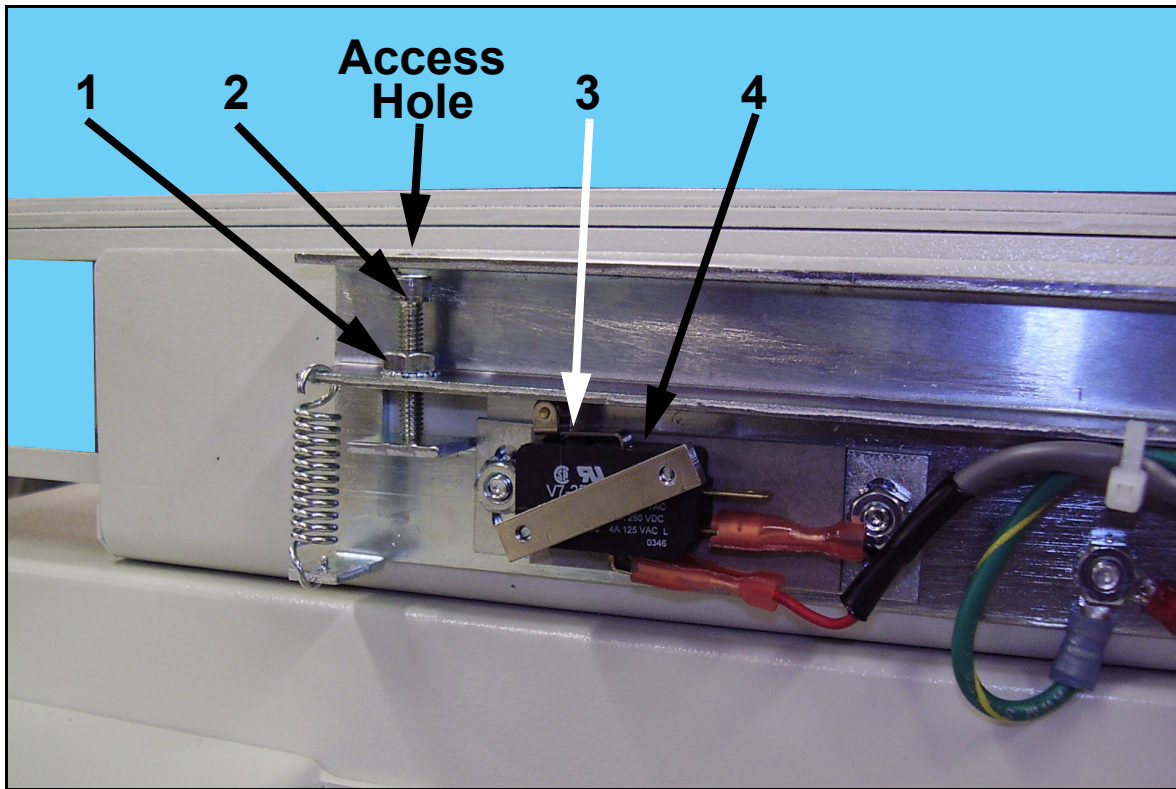

Figure 5-16. Pressure Adjustment
- 13 Loosen jam nut (1 in Figure 5-16).
- 14 Turn adjustment screw (2) in 1/4 turn increments and retest pressure. Turn it clockwise to reduce table stoppage pressure and counterclockwise to increase pressure.